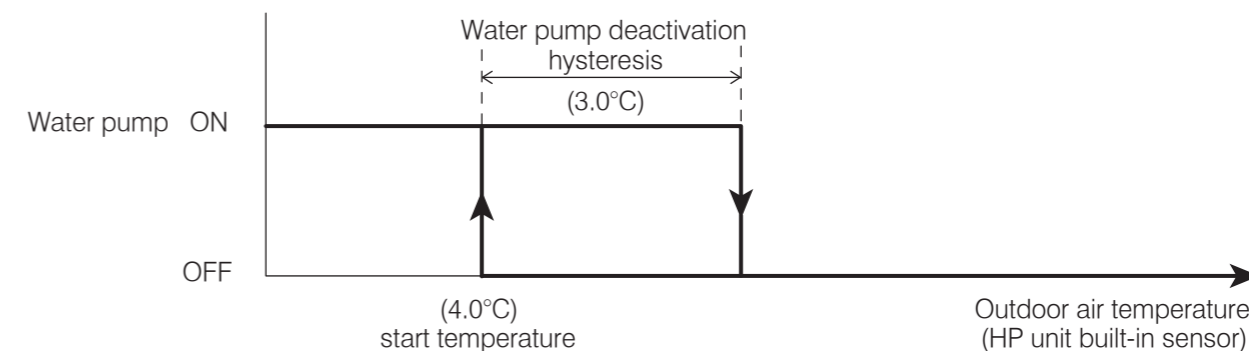

Figure 8-16: Frost protection (outdoor air temperature) - water pump
- Outdoor air temperature - refer to Section 8.4.1 and Figure 8-16.